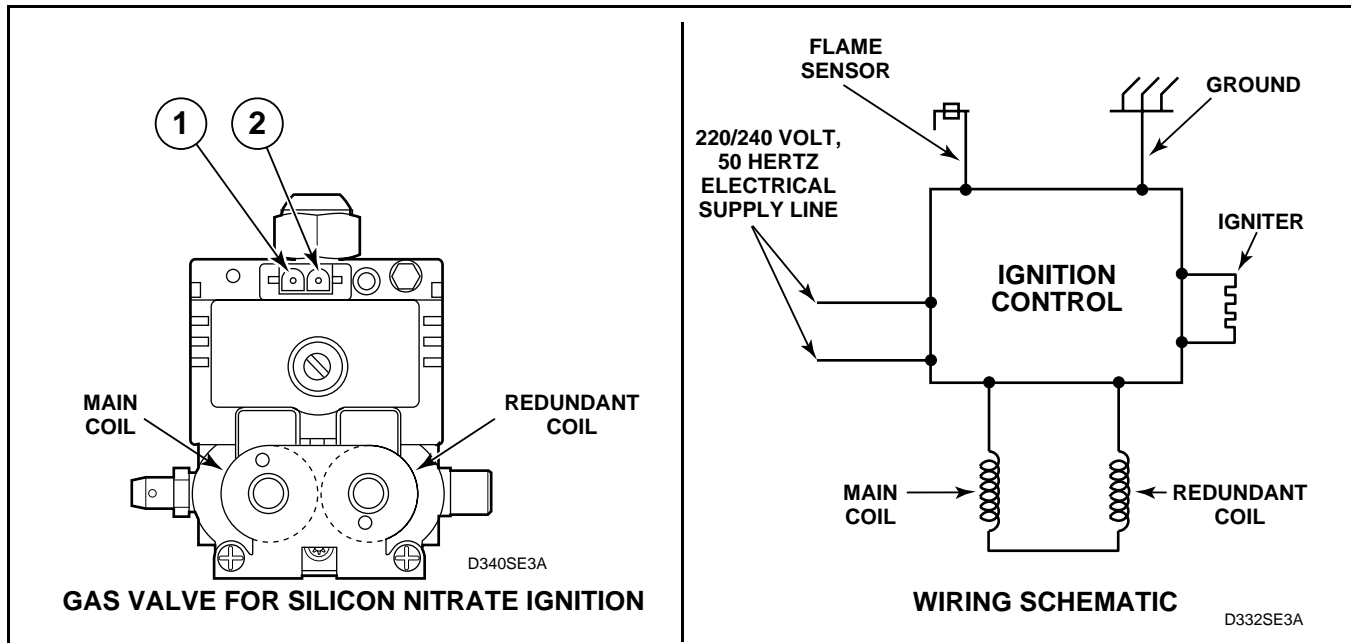

Figure 44
(Figure 44)
- d. Remove valve wire harness disconnect block from the gas valve. See *Figure 44*.
- f. Set test meter to read AC voltage and apply meter probes into terminals on the dryer harness plug that would correspond to terminals 1 and 2 on the coil. See *Figure 44*. Meter should register line voltage in all Fabric settings, except FLUFF which should read “zero” VAC.